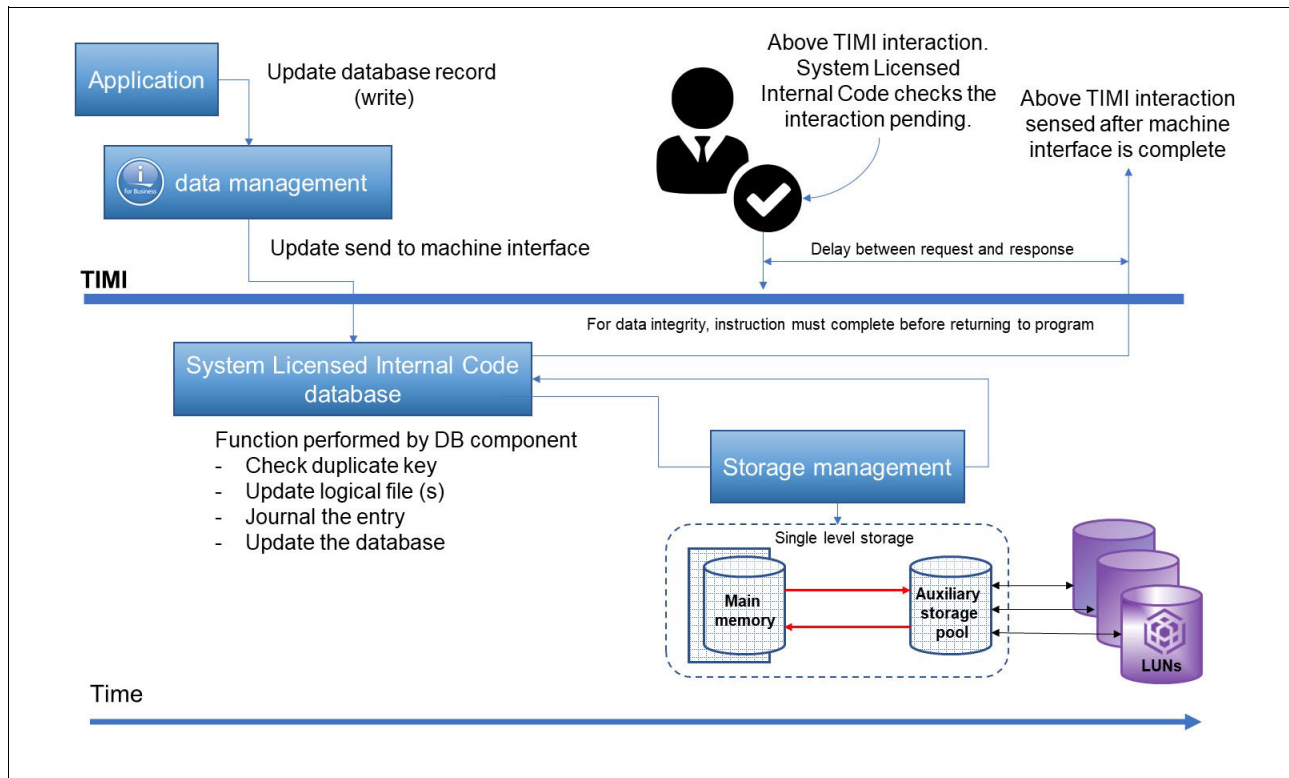

Figure A-4 TIMI atomicity
Single-level storage makes main memory work as a large cache. Reads are done from pages in main memory, and requests to disk are done only when the needed page is not there. Writes are done to main memory and/or main storage, and write operations to disk are performed as a result of swap, file close, or forced write. Application response time depends not only on disk response time, but on many other factors. Other storage-related factors include the IBM i storage pool configuration for the application, how frequently the application closes files, and whether it uses journaling. An example is shown as follows in Figure A-4 on page 527.
**Note:** In Figure A-4 auxiliary storage pool (ASP) is conformed and assigned LUNs from IBM Spectrum Virtualize to the IBM i. It also shows an application requests and updates a database record. Throughout the time TIMI task is in progress, an interaction above TIMI can ensue. Of course, the interaction does not carry out upon until TIMI task concludes.